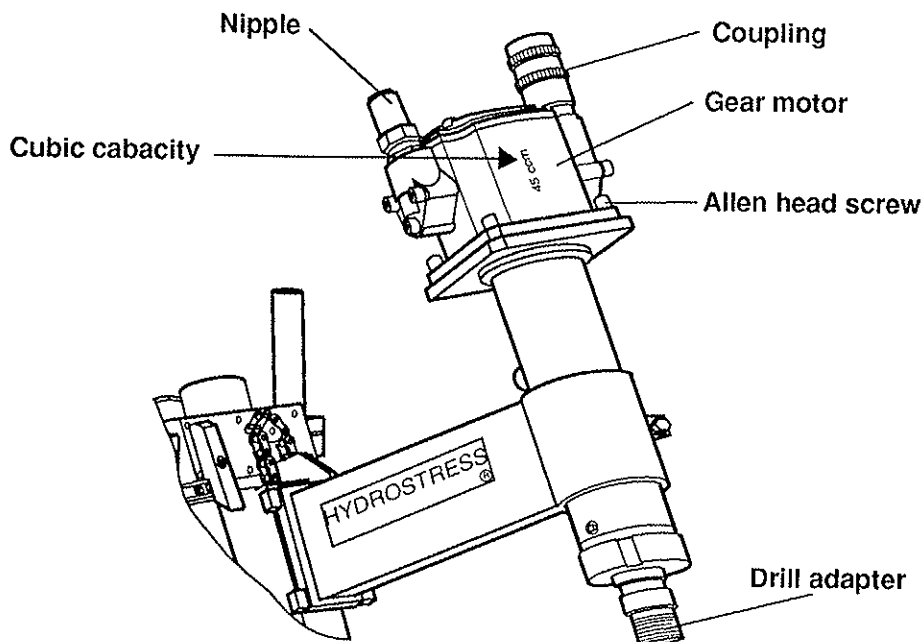

Fig. 4-5 Changing the Gear Motor
3. Remove the Allen head screws (Fig. 4-5) and the gear motor.
1. Select the appropriate drill adapter (Fig. 4-5) and install it.